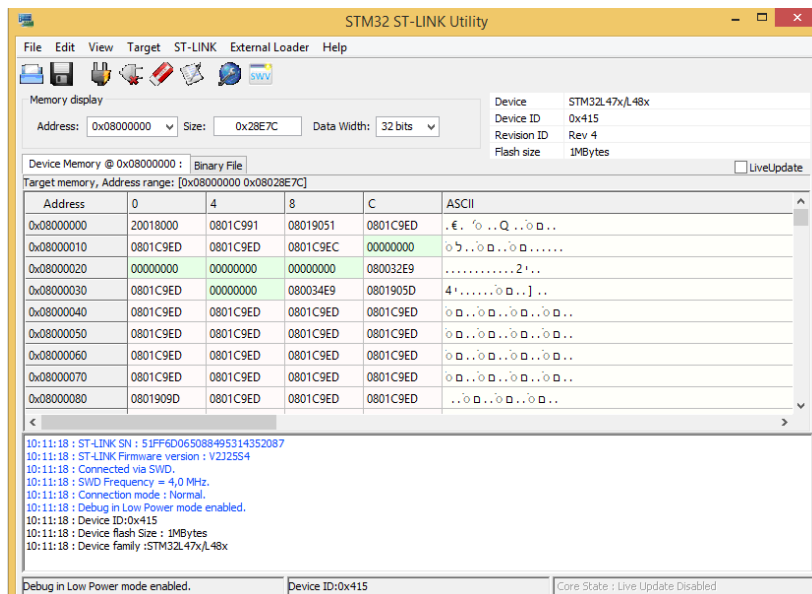

Figure 37: Connecting to module in STM32 ST-Link Utility
- In case the connection is fine, you should see the following screen, with message: "Connected via SWD". See figure 37.